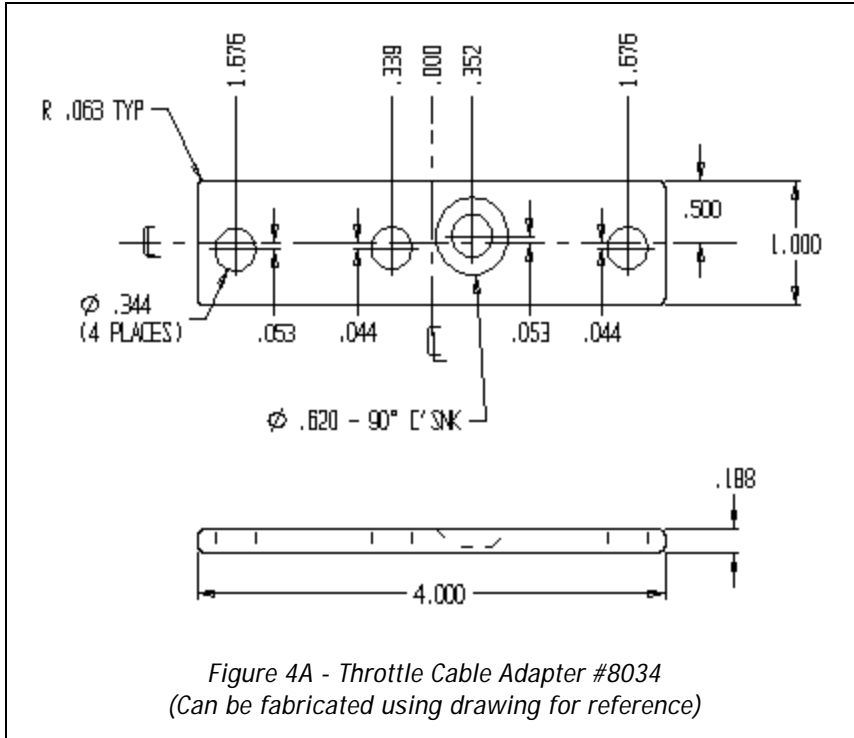

Figure 4A - Throttle Cable Adapter #8034
2. Some vehicles with 4-bbl carburetors will require a throttle bracket extension plate to move the throttle bracket forward (See Figures 4A and 4B for bracket assembly). This part is available as Edelbrock #8034.